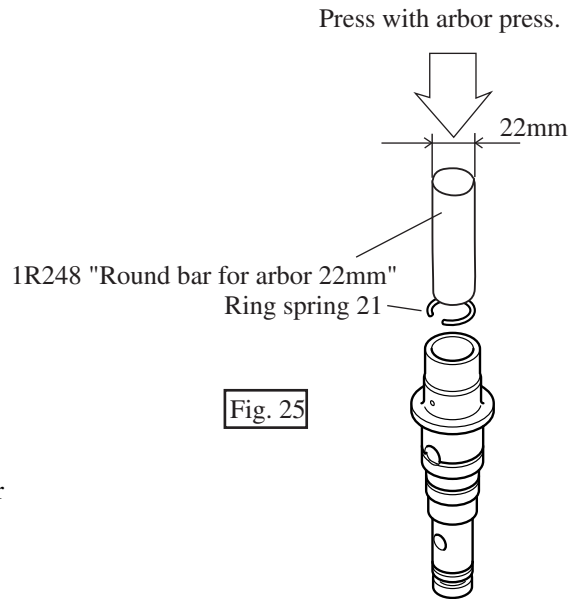

Fig. 25
(3) Press ring spring 21 into the tool holder with 1R248 "Round bar for arbor 22mm" until it fits in the groove which is grooved inside of tool holder. See Fig. 25. And make sure that the ring spring 21 is fit in the groove.